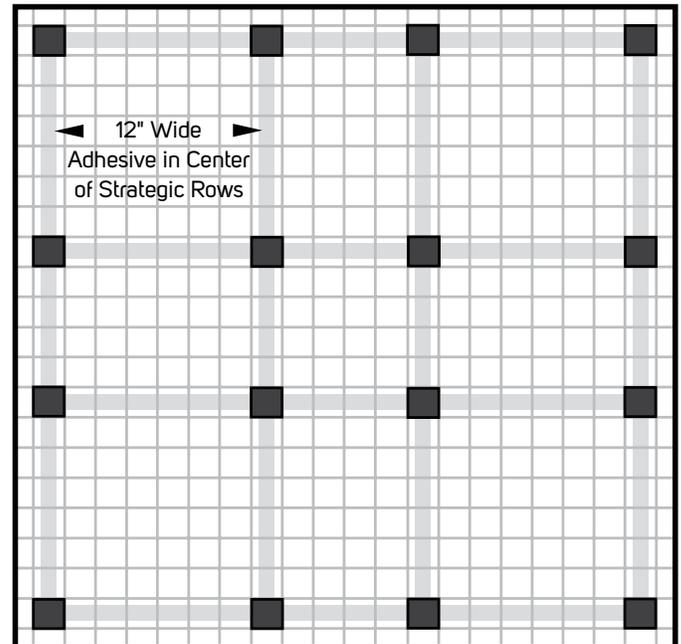

Fig. 5
- Begin by trowelling the factory supplied adhesive in a continuous 12" wide strip through the center of the grid lines where the strategic tile rows will be placed (**Fig. 5**). The outer 6" edge of each tile must not be adhered at this point in the installation in order to allow compression of these tiles during the next installation step. The outer 6" of each tile will receive adhesive during the installation of the field tiles.